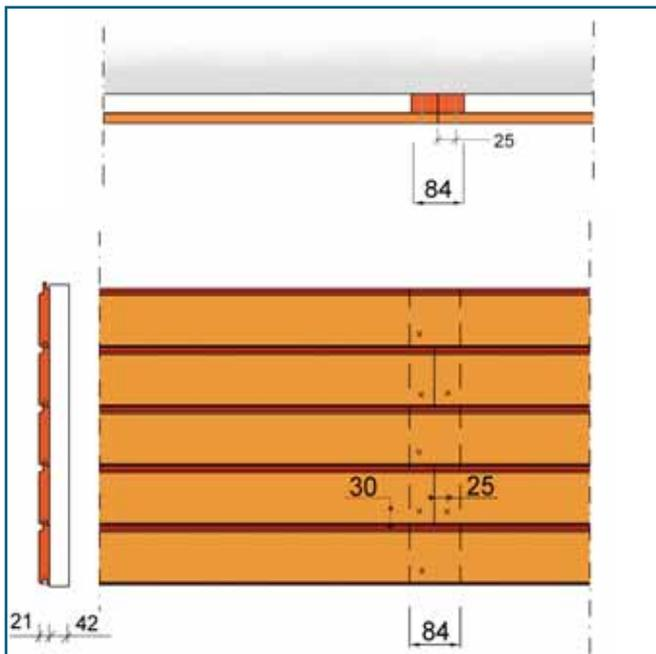

Figure 3. Where joints occur the batten width should be a minimum of 84mm.
10. Where boards are butt-jointed the junction should always occur over battens. If 42mm wide battens are used, it will be necessary to double batten the position where cladding boards meet to assure that nail fixing is at least 25mm from the end of the board (See figure 3).